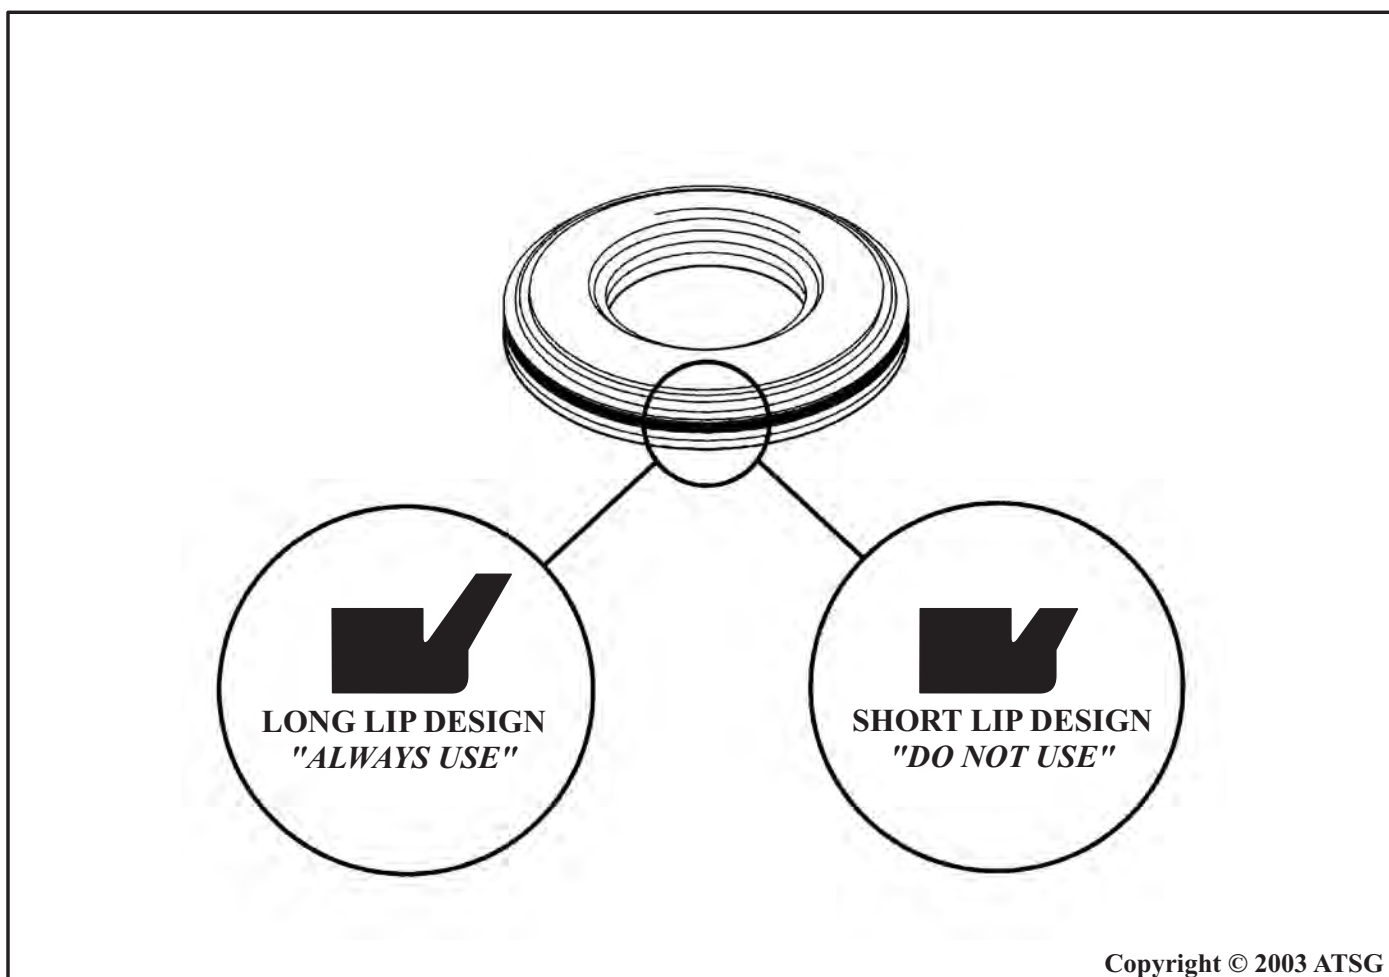

Figure 62
- (1) INNER AND OUTER LIP SEALS - Changed to short lip seals on both inner and outer seals. This affected the 3-4 Clutch, Forward Clutch, Overrun Clutch and Reverse Input Clutch, as shown in Figure 62.